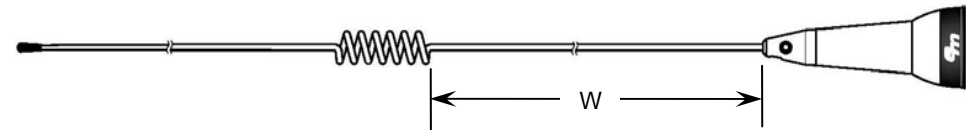

Figure 4
2. **NOTE:** Ensure the whip is located and completely seated inside the antenna whip adapter. The Tuned Length "W" is determined by measuring the distance between the top of the antenna adapter-spring and the bottom of the antenna phasing coil as shown in Figure 4. With the whip removed from the adapter, the cut length dimension will be approximately 1" (25mm) longer than the Tuned Length "W".
5. Cut the antenna whip as required to establish the specified Tuned Length "W" as shown in Figure 4.